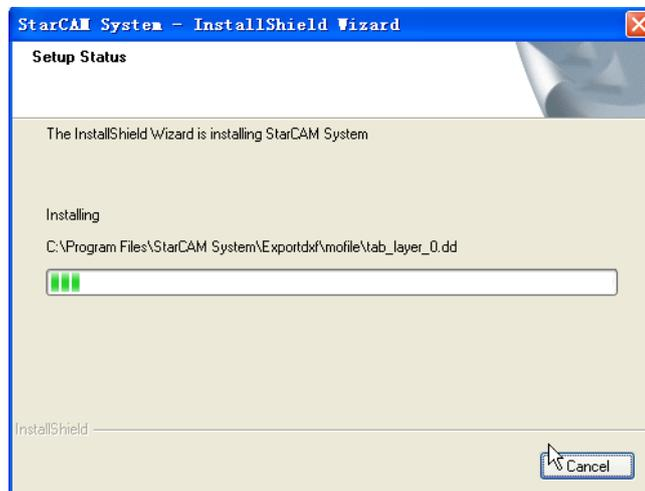

Figure 8
8. Click the button “Next”, and then enter Figure 8 to start copying the file.